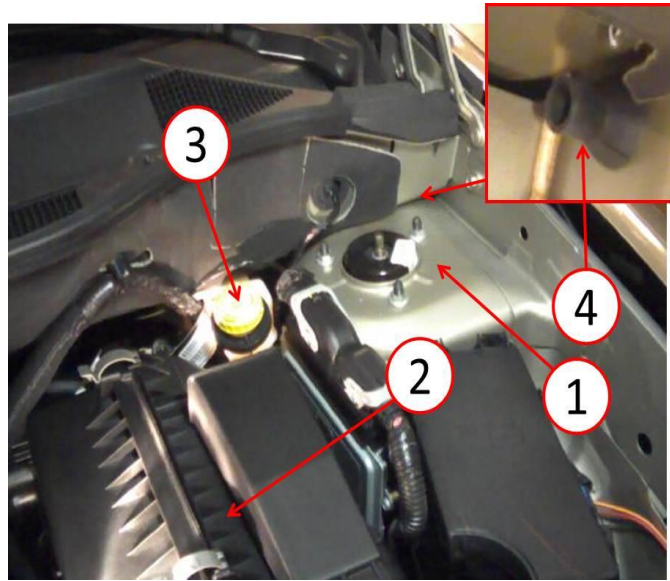

Fig. 3 Left Front Drain Tube
5. Route the new left front sunroof drain tube through the engine side of the bulkhead (Fig. 3)